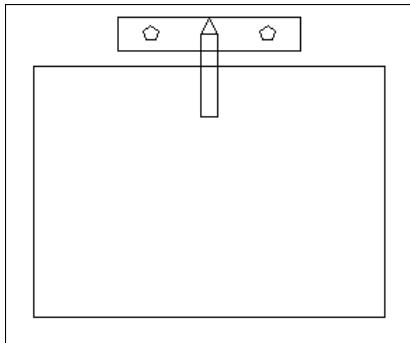

**Figure 6-2:** The completed sink, drawn with rectangles and polygons.
17. Turn off the grid to get a better look at the drawing. You have completed the sink, which should look like Figure 6-2. Save your drawing.